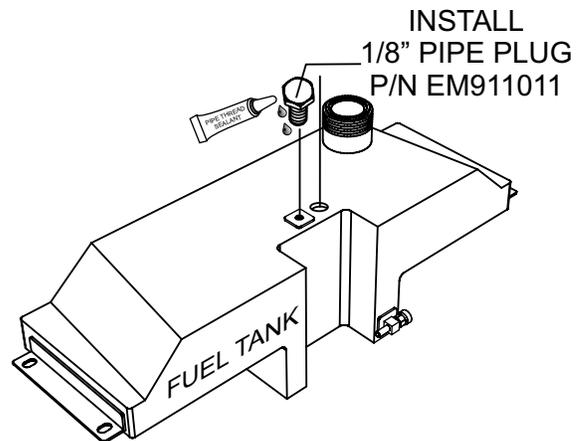

Figure 12. 1/8" Pipe Plug Installation
1. Apply fuel resistant sealant (Figure 12) to the threads of the new 1/8-inch pipe plug (P/N EM911011) to be installed on the fuel tank.